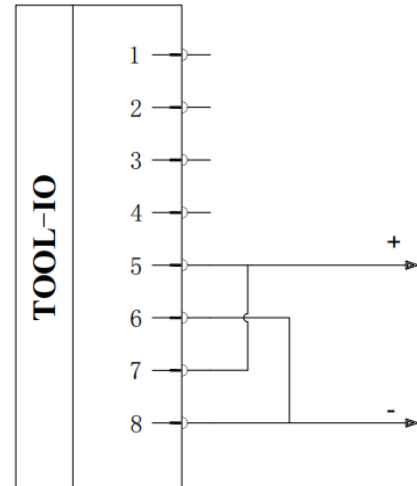

Figure 2-35 : Dual pin mode 2 connection
2) Wiring method: as shown in **Figure 2-35**, connect the power cable (5 gray) to the TI1/TO1/PWR1 cable (7 blue), and the ground cable (8 red) to the TI0/TO0/GND1 cable (6 pink).